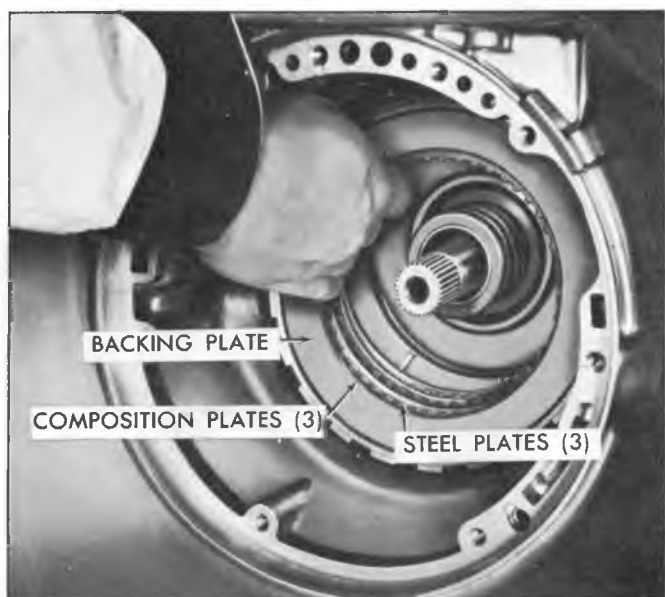

Fig. 34T--Removing Intermediate Backing Plate and Clutch Plates
12. Remove intermediate clutch backing plate, three (3) composition, and three (3) steel clutch plates (fig. 34T).